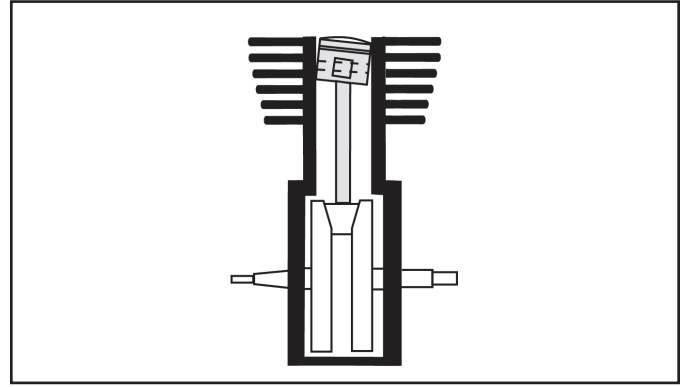

Figure 4
4. Move piston towards driveside of engine and repeat Step C. If inaccuracies are present due to machining variations in cases, cylinders or pistons, top land of piston deck will appear closer to cylinder wall at one point around circumference. This means that piston is cocked in cylinder bore and can be corrected by bending rod in opposite direction. **Figure 4 , above right**, shows an exaggerated side view of this condition.